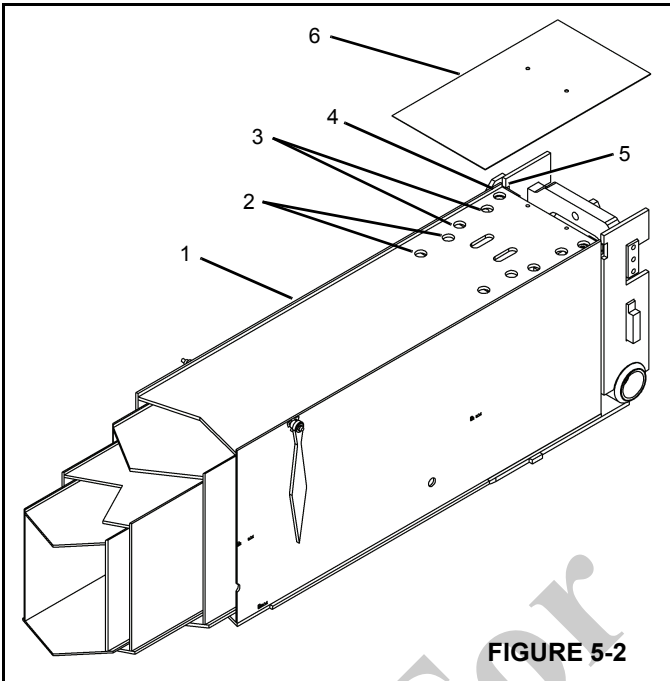

FIGURE 5-2
2. With the boom fully retracted, remove the access plate (6) located on the top rear of the 1st section (Figure 5-2).
3. Apply grease to the wear pads on the top of the 2nd section through the access holes (4) in the 1st section with a grease gun (Figure 5-2).
4. Extend the boom to line up the access holes on the 2nd section (3) with the wear pads on the 3rd section. Apply grease to the 3rd section wear pads with a grease gun.
5. Extend the boom to line up the access holes (2) on the 3rd section with the wear pads on the 4th section. Apply grease to the 4th section wear pads with a grease gun.